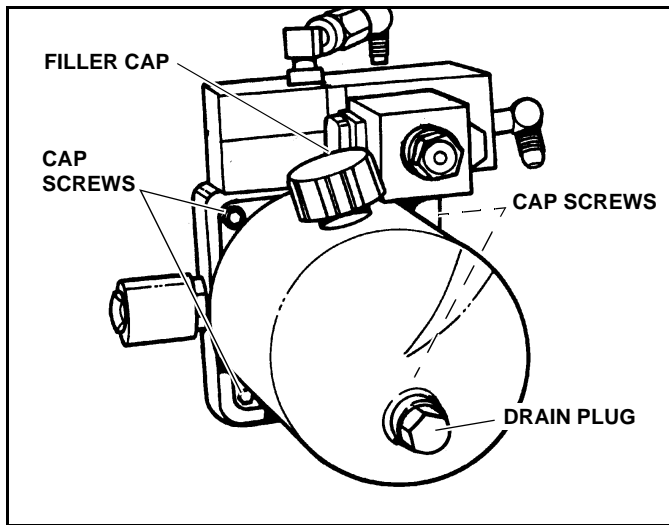

Figure 2-3
8. Remove the filler/breather cap from the reservoir. (See Figure 2-3)
9. Remove drain plug (See Figure 2-3) and carefully drain the fluid from the reservoir into a suitable container.
10. Remove the four cap screws securing the oil reservoir to the pump assembly and remove the oil reservoir. (See Figure 2-3)
15. Inspect the O-ring seal for damage, replace if needed, lubricate with fresh oil and reinstall reservoir carefully to avoid damaging the O-ring. Tighten cap screws to 4-6 lb-ft. (See Figure 2-3)